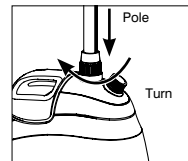

Figure 1
2. Insert pole into top of unit. Match the grooves on the pole with the notches in the pole connector and push down. Securely tighten the nut on the pole over the connector by turning it clockwise (Fig. 1).